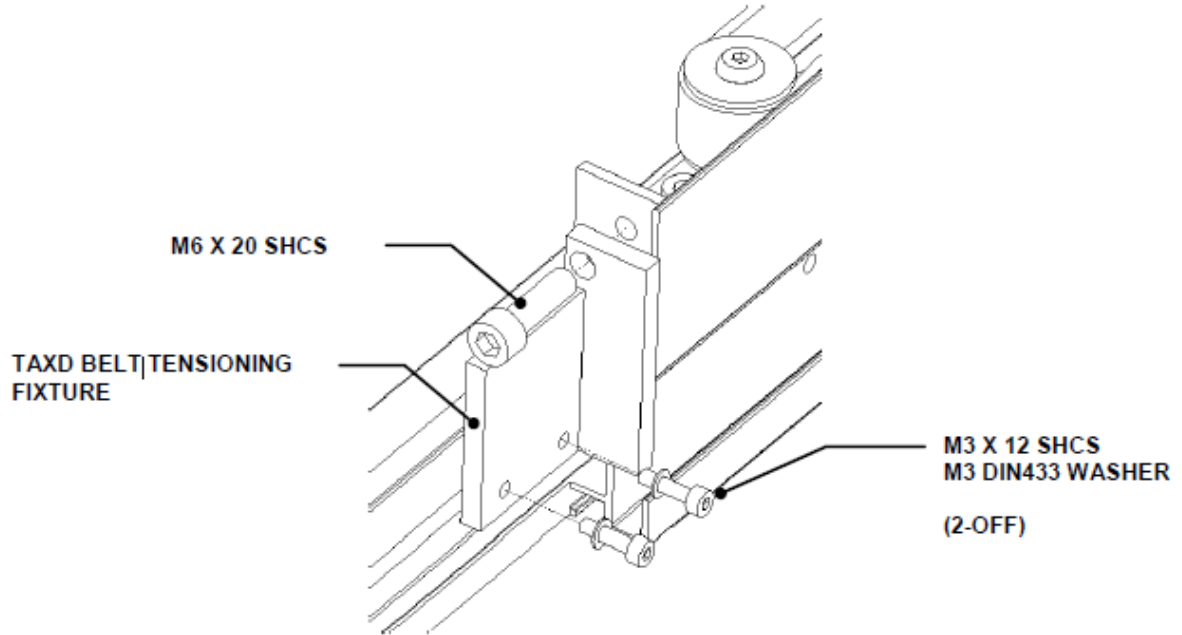

Figure X-16: Placing Belt Tensioning Fixture
6. Attach the Transport arm X Drive Belt Tensioning Fixture (P24FIX010) to Fixed Extrusion Left using the screws and washers supplied with the fixture. Fit the supplied through the fixture into the X Tensioner Plate and turn the screw clockwise to take up any initial slack in the belt (Figure X-16).